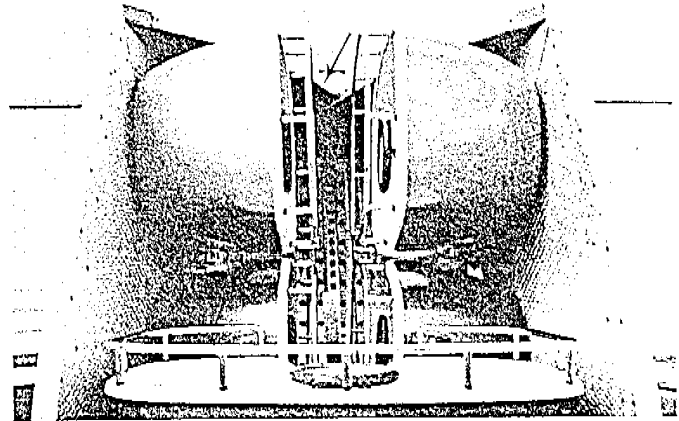

Fig. 29
- HOW TO KNOW WHICH SIDE TO LOWER FIRST: In storage, the wing tip from one side of the ride rests on top of the wing top from the other side. Lower the large platform section with the wing tip stored on top first. (Fig. 29)